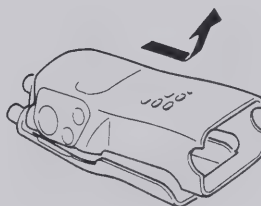

Fig. 3
- 5 Open the front panel from the PTT switch side, being careful of the internal wiring.(Fig. 3)